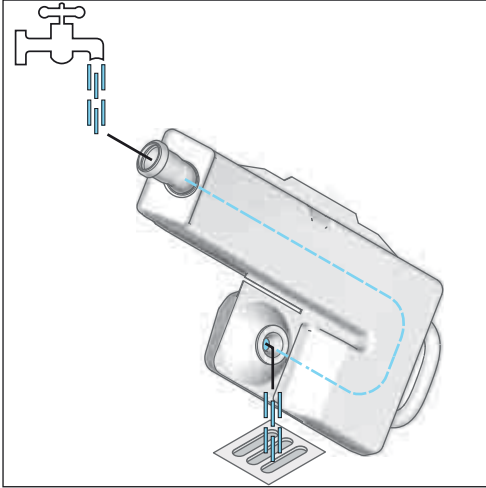

Fig. 9-8 Rinse condensate box
- Rinse condensate box with flowing water against the flow until clear water emerges (fig. 9-8). The condensate box must be shaken in order to dislodge the deposits.